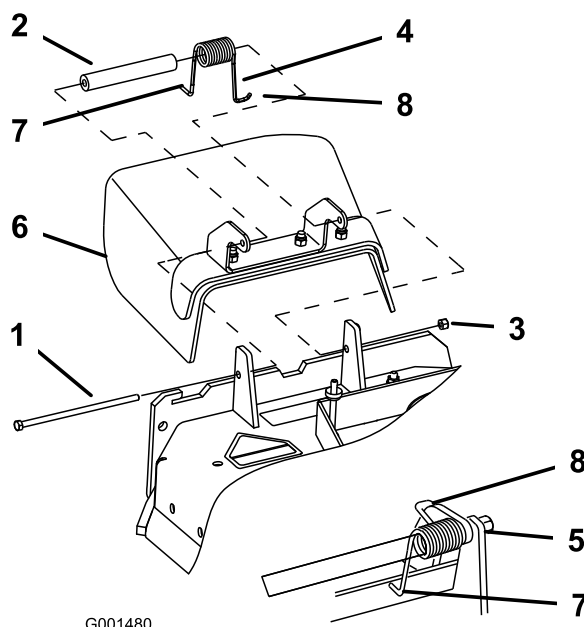

Figure 66
1. Remove the locknut, bolt, spring and spacer holding the deflector to the pivot brackets (Figure 66). Remove damaged or worn grass deflector.
Note: Make sure the L end of spring is installed behind deck edge before installing the bolt as shown in Figure 66.
3. Install bolt and nut. Place the J hook end of spring around grass deflector (Figure 66).